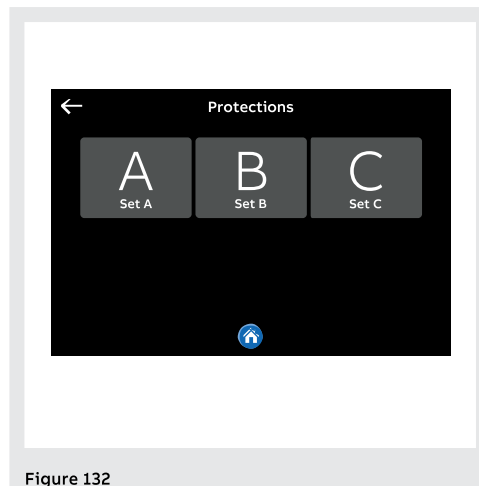

Figure 132
- Figure 132: menu with Triple set activated.